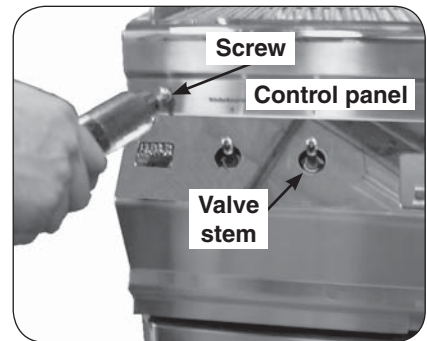

Fig. 2-3 Remove control panel
- With the burner valves in the **OFF** position, pull the valve knobs from their stems. Use a Phillips screwdriver to remove the control panel fastener screws on either side of the grill control panel (see Fig. 2-3). Release the control panel by lifting it slightly and remove it from the grill. Make sure to retain the screws and finish washers for re-attaching the control panel.